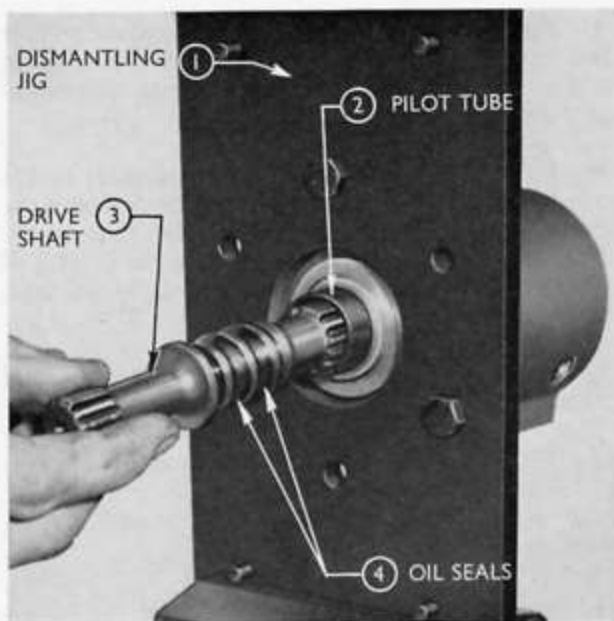

Fig. 40
2. Inspect the driveshaft, and if serviceable, fit two new oil seals, using Tool No. CA.55. The seals are separated from each other by the flange machined on the shaft (see Fig. 40). Both seals are fitted with the lip towards the pump body.
3. Insert the short splined end of the driveshaft into the pilot tube from the rear of the dismantling jig (see Fig. 40). Special pliers Tool No. CA.56 should be used to fold these seals to facilitate assembly and prevent damage.